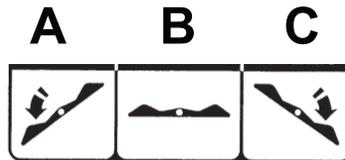

Figure 2 – Brake/steer functions
To apply the brakes, push down on the brake (A) (Figure 2) side of pedal (*Product illustration* (page 6)).
To release the brakes, push down on the steer (C) (Figure 2) side of pedal (*Product illustration* (page 6)).